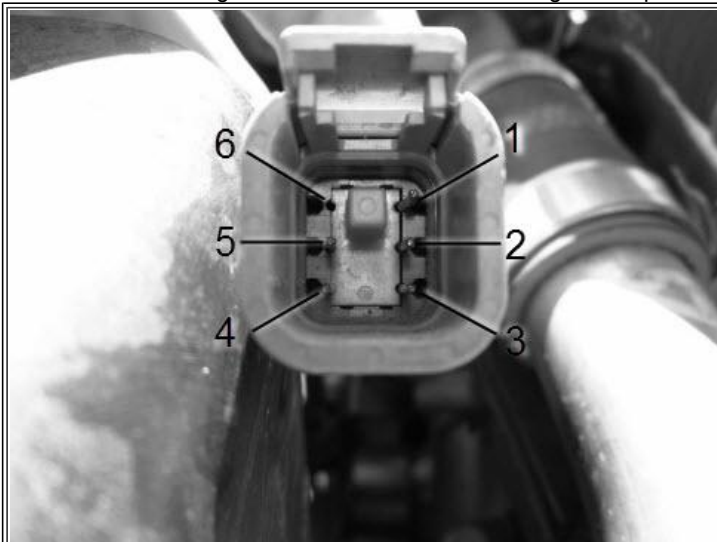

Figure 18 - Pin Location Map (Front View)
13. Install wires into terminals in fan clutch harness connector following pin location map (*Figure 18*).